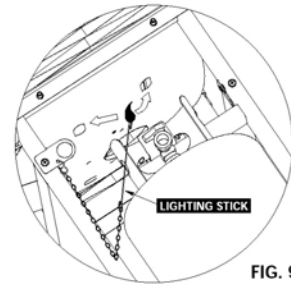

FIG. 9
4. Insert a lit match attached to the end of the Lighting Stick or butane lighter into the match lighting hole located on the underside of the grill body.(see Fig.9)